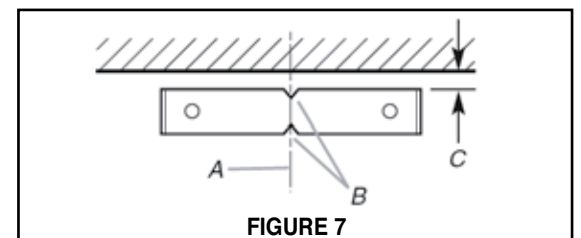

FIGURE 7
4. Place one of the chimney brackets against the wall so that its top edge is 1/16" (C) from the ceiling or soffit and level. Align the center notches (B) of the bracket and the centerline (A). Mark the centers of the bracket holes and attach to the wall with 2 screws. (see FIGURE 7)